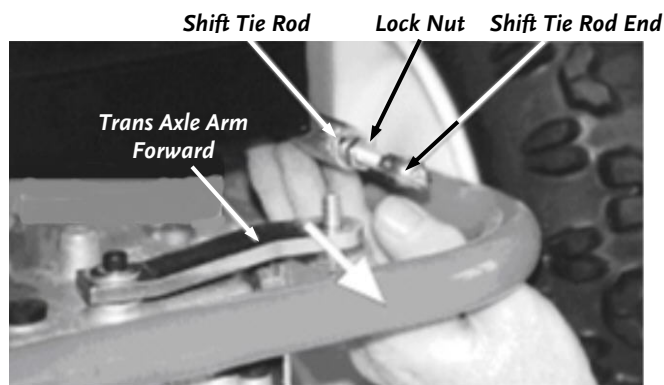

Figure 28
3. Fully extend the Transaxle Arm toward the front of the machine; this will put the Transmission into Reverse gear (**Figure 28**).
4. Loosen the Lock Nut on the Shift Tie Rod End with 9/16" Open-End Wrench (**Figure 28**) and turn the Tie Rod End, clockwise to shorten the Tie Rod, and counterclockwise to lengthen it.